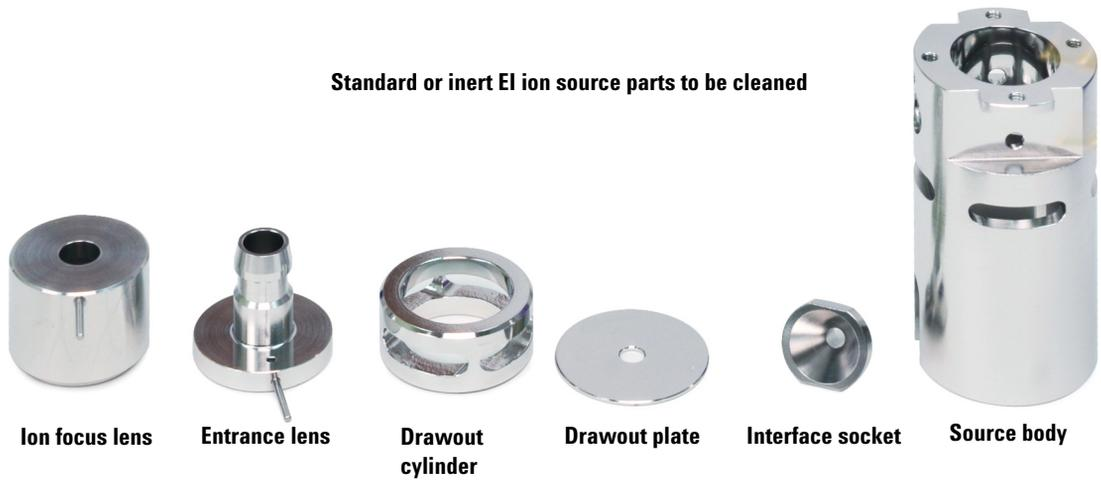

Figure 15 Source parts to be cleaned
- 2 Collect the following parts to be cleaned for a standard or inert EI ion source: (See Figure 15 on page 107.)
(See Figure 15 on page 107.)